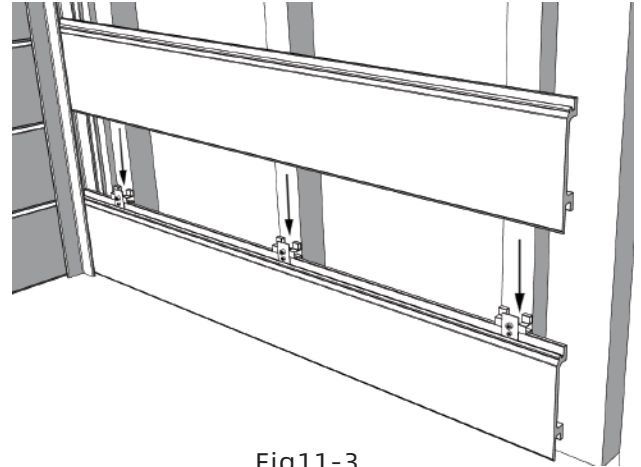
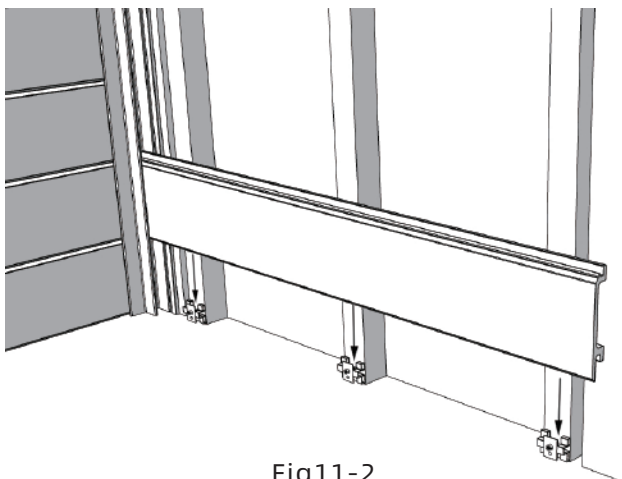

Fig11-3
Fig11-2
2. Snap the wall plate into the HLYC-016F recess and slide it downward to snap onto the wall plate fitting. As shown in Figure 11-2 and Figure 11-3: